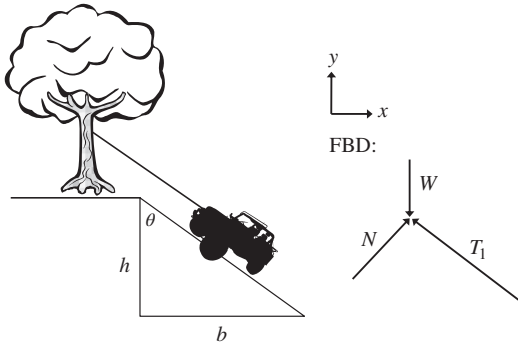

Figure P4.31 Off-road vehicle on muddy incline.
- 4-31.** An off-road vehicle loses traction on a muddy incline and must attach its winch to a tree that holds the vehicle in place, as shown in Fig. P4.31. A vector diagram of the resulting forces is also shown in this figure.